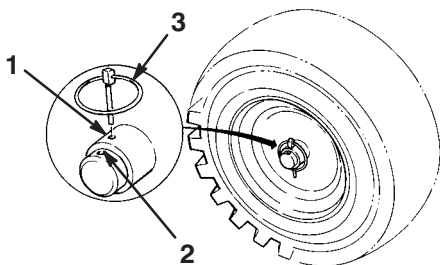

Figure 5
7. Slide the wheels inward and insert each axle pin through the hole in each wheel hub and through the inner hole of the axle (Fig. 5).